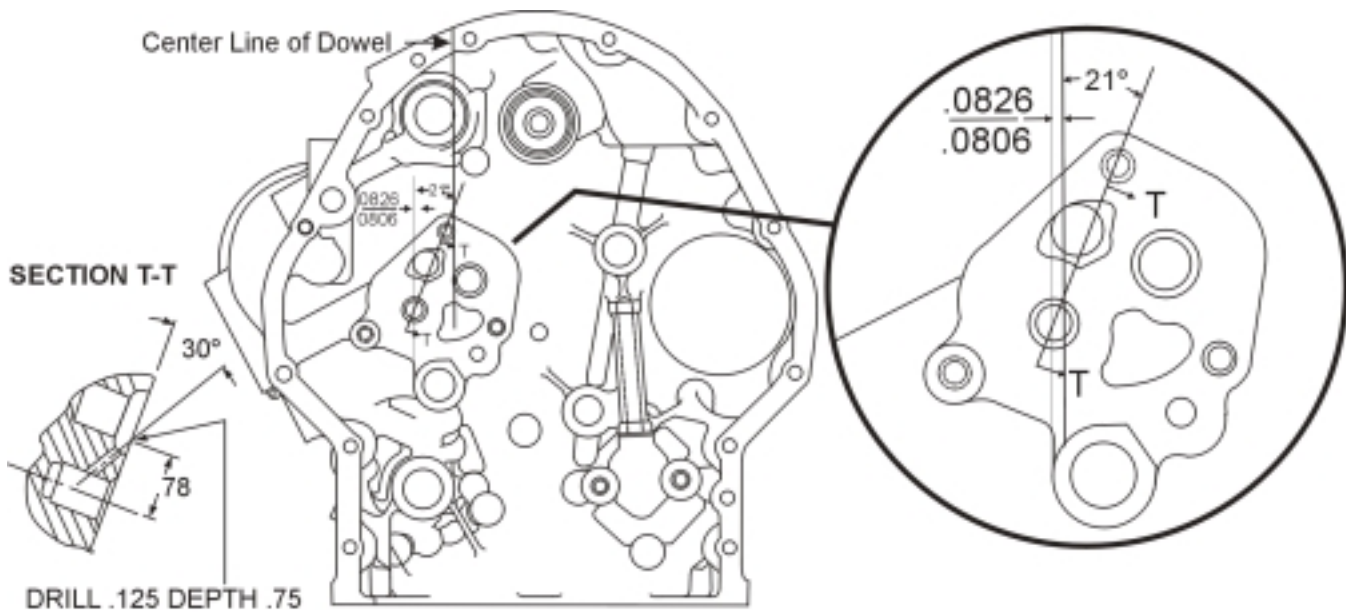

Figure 2. 4 Cylinder Dual Magneto, Standard Rotation Models
1. Drill passage with a $\frac{1}{8}$ inch (.125) drill setting depth at $\frac{3}{4}$ inch (.75) at a 30° angle to the surface of the oil pump mounting pad as shown in Figure 2.